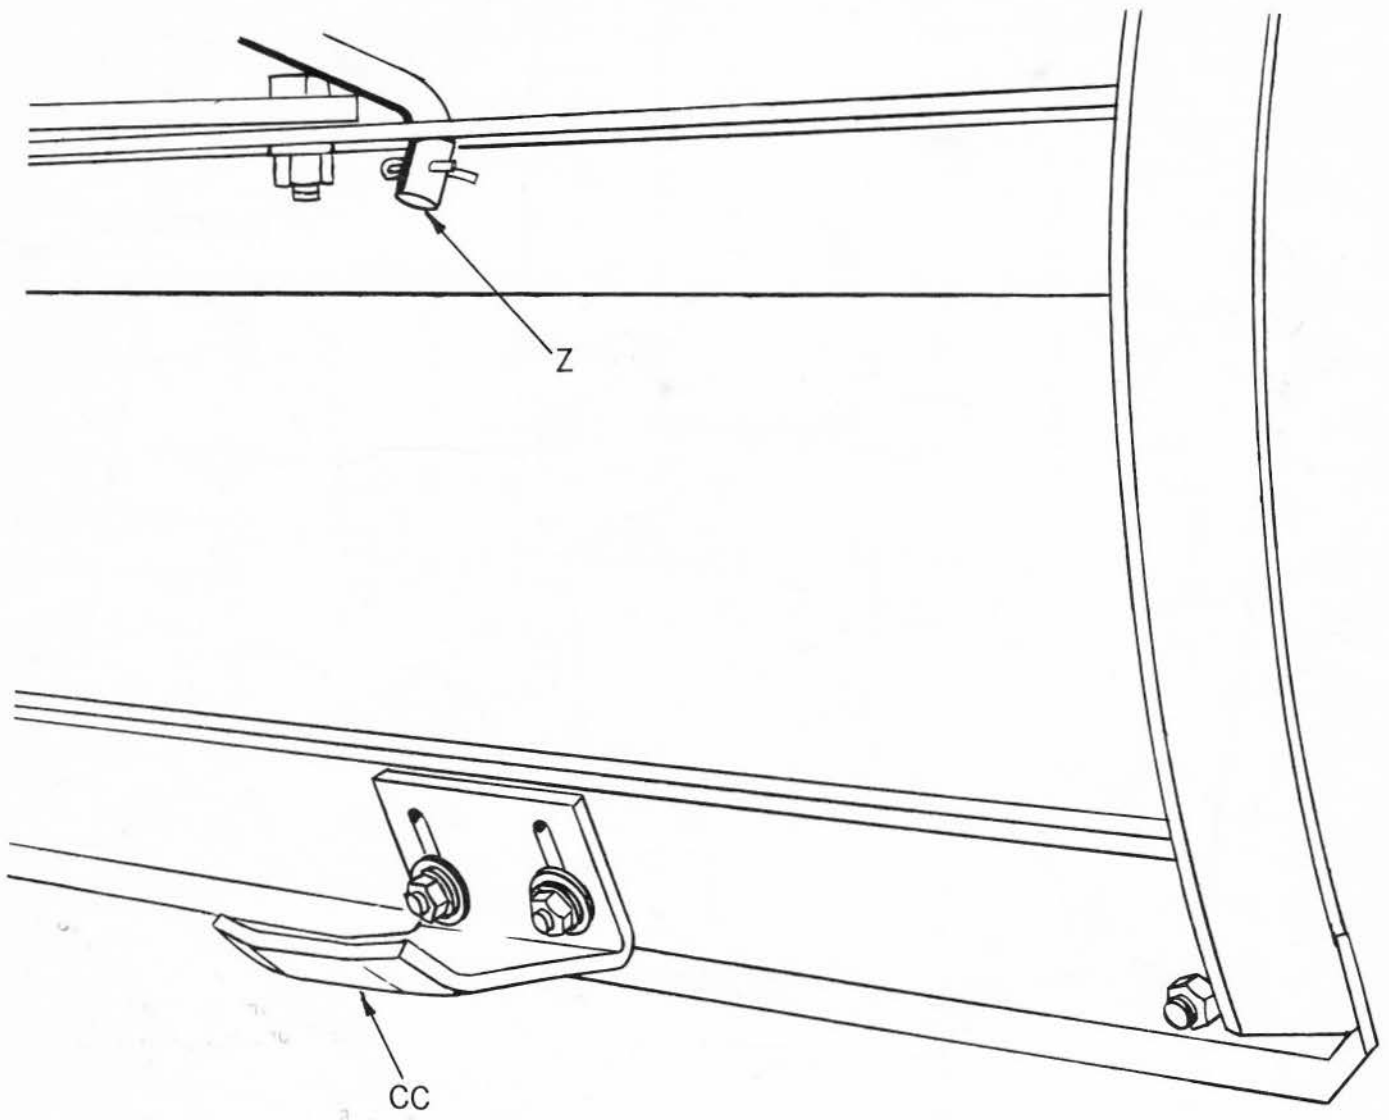

FIG. 6
The blade shoes (CC), Fig 6 are adjustable for raising or lowering blade edge. When moving material on rough or uneven surfaces, lower blade shoes thus raising the blade edge. After adjustment, always tighten nuts securely.